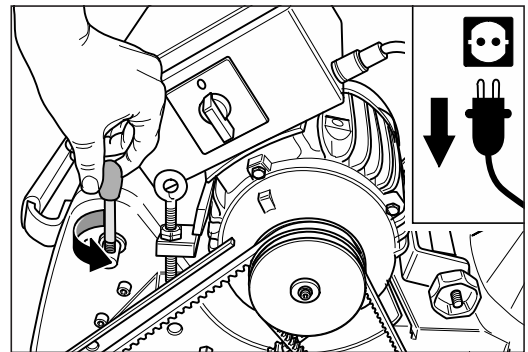

Fig. 41 Unscrew the operating lever of the drive unit. **Similar to figure.**
- 7 Remove the operating lever of the drive unit by unscrewing (fig. 41).